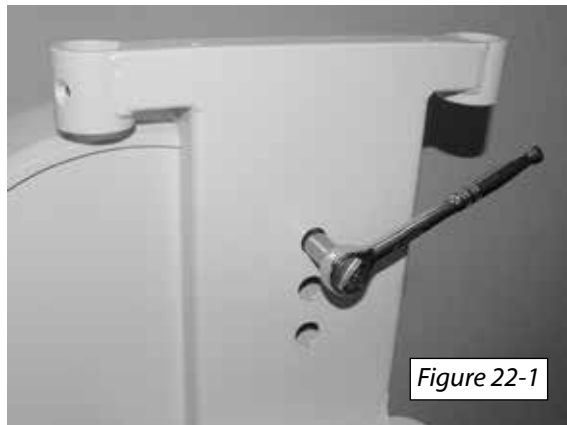

Figure 22-1
4. On the front side of the chassis, loosen the two screws on the seat support using a 9/16" socket. *[Figure 22-1]*